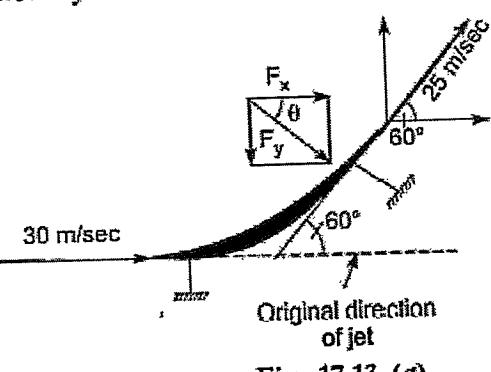

Fig. 17.13 (a)
-ve sign means the angle θ is in the clockwise direction with x -axis as shown in Fig. 17.13 (a)